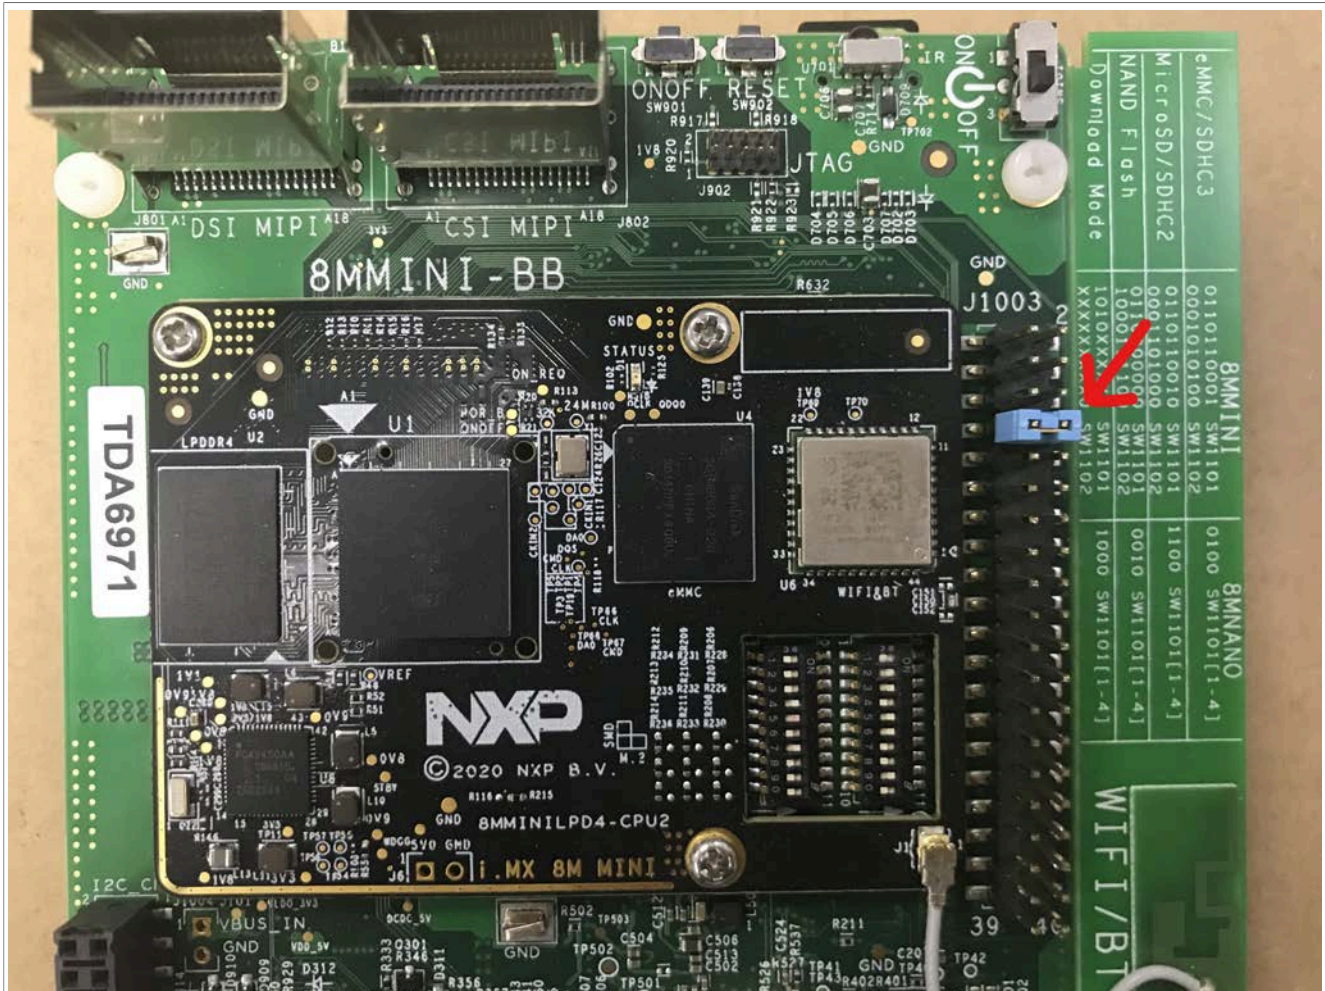

Figure 11. Connections for GPIO test on i.MX 8M Mini LPDDR4 EVK board
4. For GPIO test on i.MX 8M Mini LPDDR4 EVK, connect pin7 and pin8 of J1003 by a jumper as shown in Figure 11.